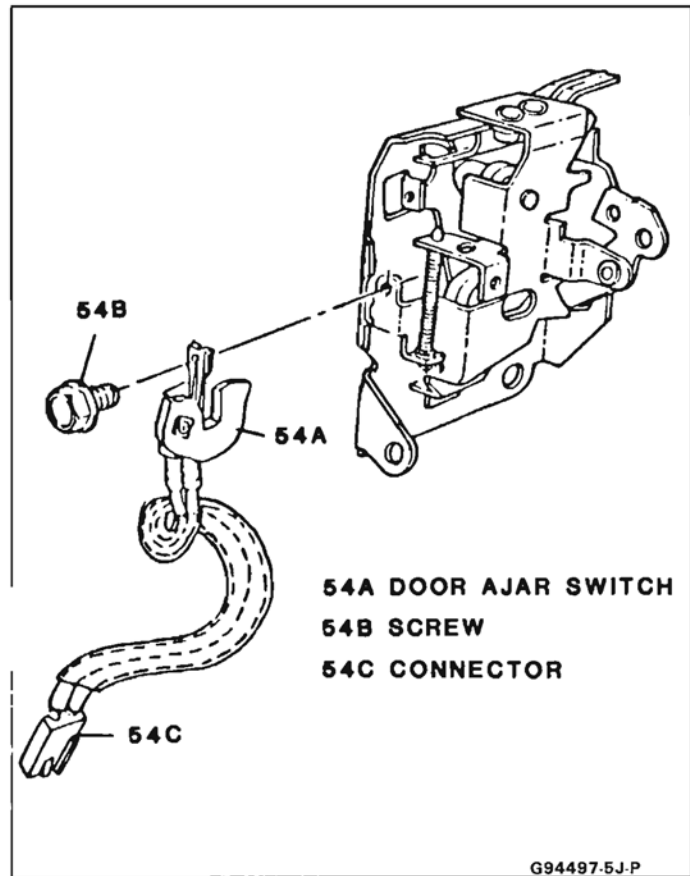

Fig. 26 - Installing Door Ajar Switch
4. Door ajar switch wire connector from main harness (54C, Fig. 26)
5. Lock assembly screws – lower assembly to disengage outside handle lock rod (50)
6. Lock assembly (54)
5. Door ajar switch wire connector to main harness (54C, Fig. 26)
→ Remove or Disconnect (Fig. 26)